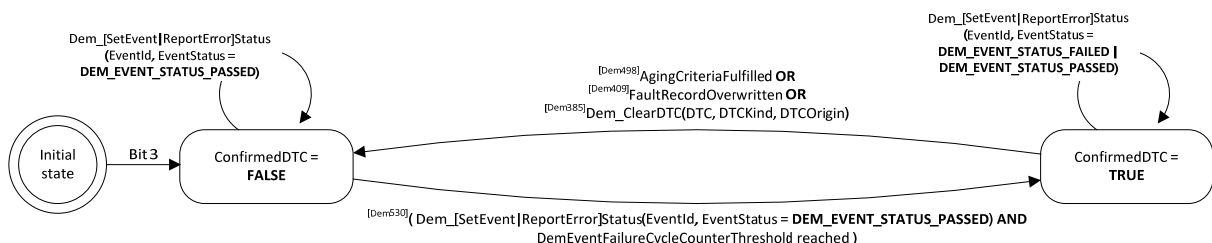

**Figure 15 DTC status bit 2 PendingDTC logic**
**[Dem390]** «The Dem module shall implement the status bit transition for UDS DTC status bit 2 (PendingDTC) according to Figure 15.»()